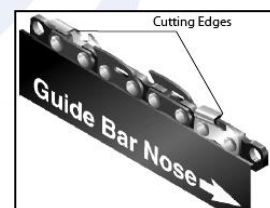

Figure 15
3. Place new chain around drive sprocket, along top groove of guide bar, and around guide bar nose. Note: Make sure cutting edges of chain are facing in right direction. Position chain so cutting edges on top of guide bar face guide bar nose (see Figure 15 and indicator on side cover of saw).